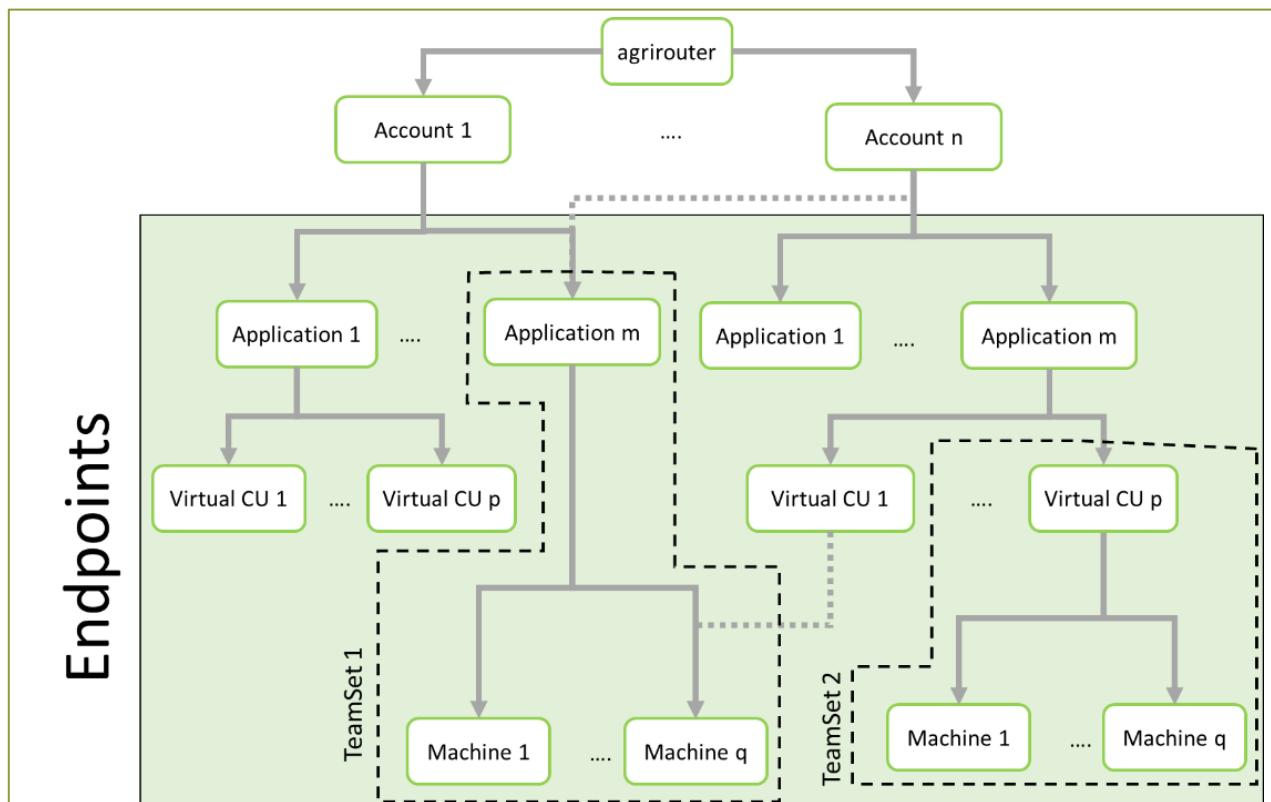

Figure 11 A hierarchical overview of agrirouter ECO System
All required steps are available in Endpoint Software Management (see Figure 11 and Figure 12) in the section agrirouter for developers (1) in the launch pad:
- List of existing applications (2)
- Registration of new application (3)
- Details on application (4)
- Application versions (5)
- Creation of new application version (6)